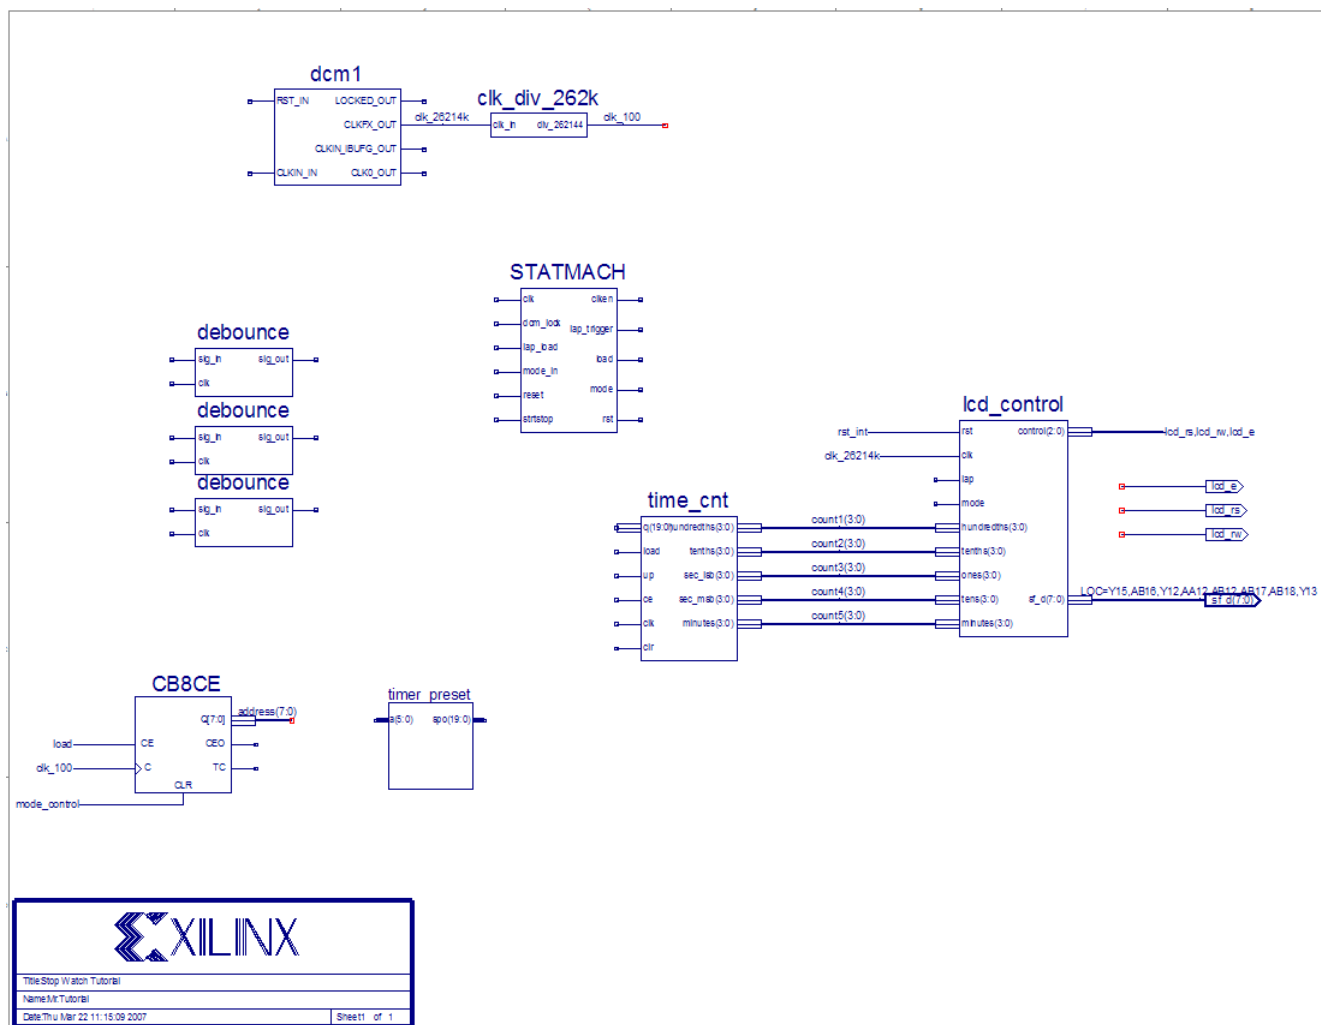

Figure 4-26: Placing Design Macros
5. Select the appropriate symbol, and add it to the stopwatch schematic in the approximate location, as shown in Figure 4-26.